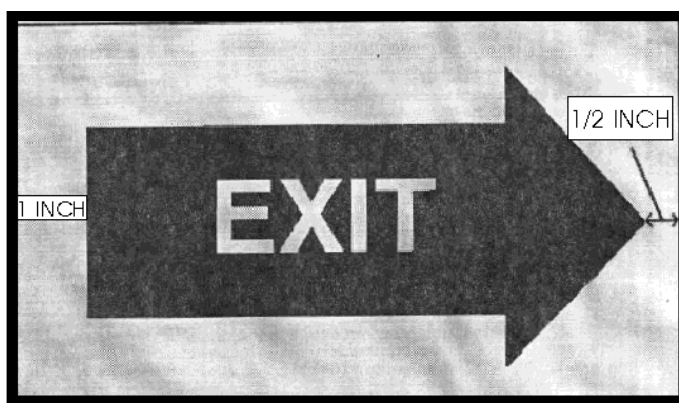

Figure 10-5; Exit Sign
- (1) The background shall be of a suitable size and red in color.
- (2) The lettering shall be made of one inch white letters.
- a. Exit Signs/Arrows. In those compartments with a length or width of 30 feet or greater, **photoluminescent** exit signs shall be placed on bulkheads of passageways every 15 feet along the "primary" egress route only. No "double directional" signs shall be used. The signs shall be located no lower than 12 inches and no higher than 36 inches above the deck. When used in conjunction with Battle Dressing Station routing markers, the signs shall be stacked one above the other with the Exit sign nearest the deck and the BDS sign topmost. Placement of photoluminescent signs shall not violate provisions of 10.B.1.e and 10.B.1.f of this Manual. Photoluminescent signs/materials shall be in accordance with 10.B.1.g of this Manual. See figure 10-5 for exit sign configuration.